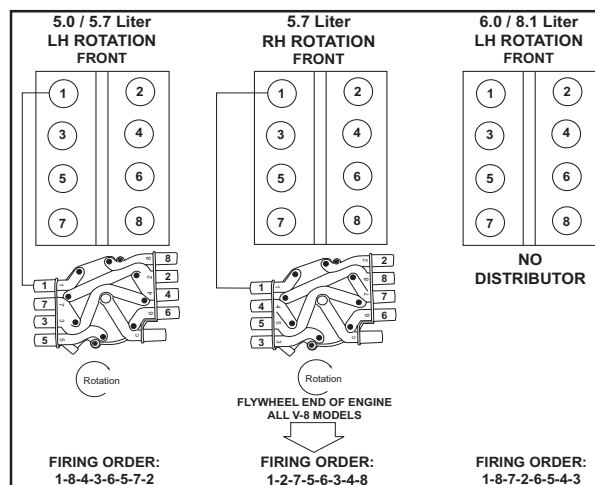
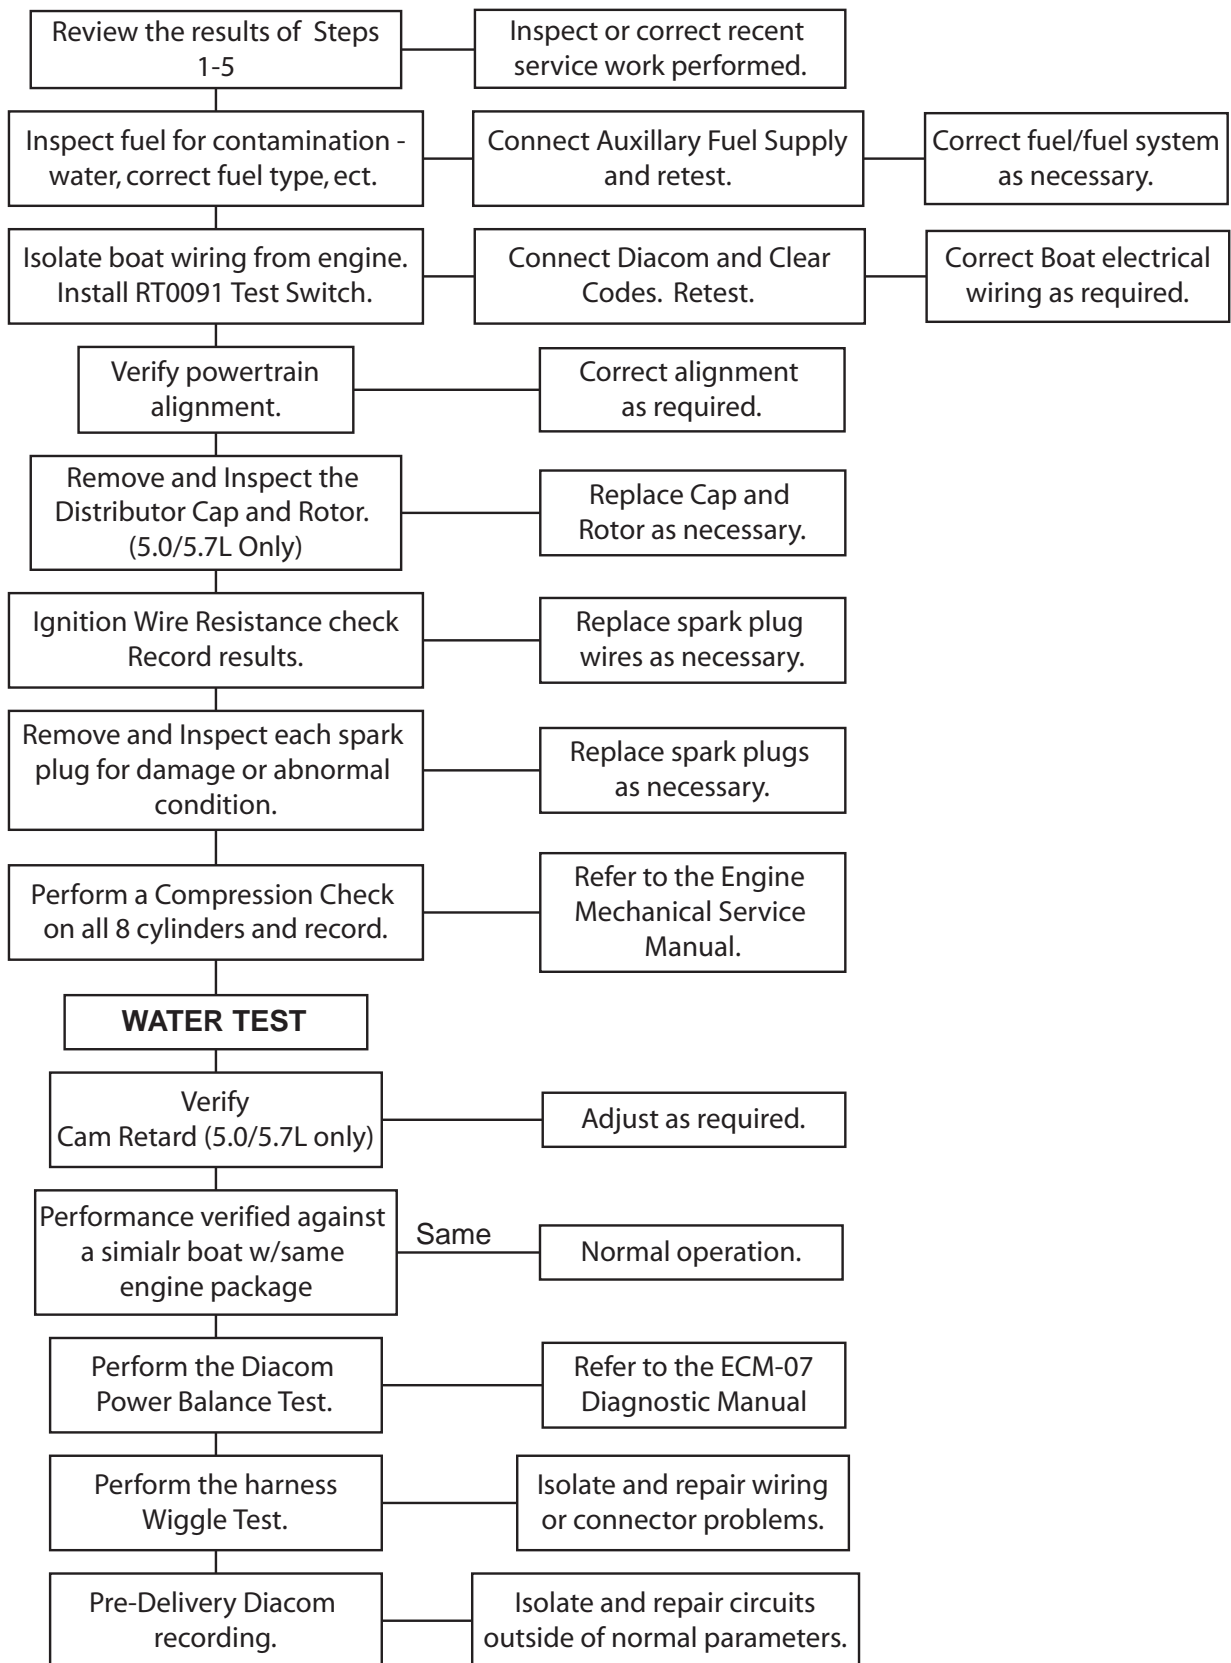

Figure 2-3 Drivability Checklist
Figure 2-6 Drivability Checklist - No Codes
Refer to Figure 2-6, The Drivability Checklist - No Codes Troubleshooting Tree, for Step 6A of the Drivability Checklist, Figure 2-3. This trouble tree follows the items listed under Step 6A on the Drivability Checklist. The first check is to review the data collected as you performed the first 5 steps of the checklist.
Refer to Figure 2-3, Step 6A-2. An extremely important test is to verify the quality of the fuel in the boat. Sample the gasoline for water, diesel fuel, and other contaminants. This can be done by draining the FCC fuel bowl into an approved container for inspection.
Step 6A-6 - Check and record the resistance of each spark plug wire. Ignition wire resistance should not be greater than 10,000 ohms per foot. Record the results in the space provided on the Drivability Checklist, Figure 2-3. Leave the plug wires disconnected.